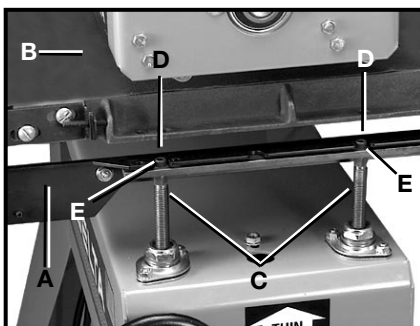

Fig. 7A
6. Lift sanding table (B) Fig. 7A, and position support bracket (A) between sanding table (B) and table mounts (C). Pull it to the outside as far as it will go. **IMPORTANT: Slots (D) Figs. 7A and 7B should fit around the top of the screws (E) Fig. 7A.** Reinstall the two screws and lockwashers loosely, (if your tool has flat washers here, discard them) then repeat the installation for the other side. Once the support brackets are in place, and all screws are attached, tighten all four screws.